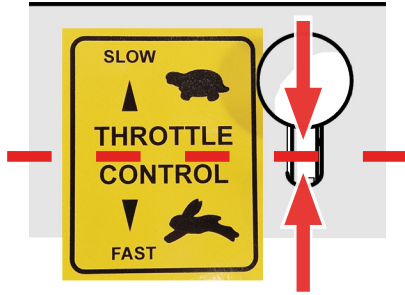

Fig. 9F - Throttle set half-way
6. Set the throttle lever to the *half-way* position (Fig. 9F).